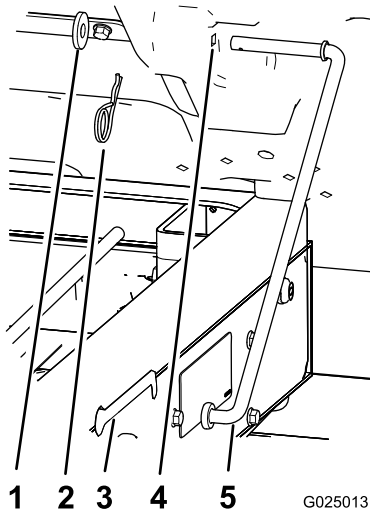

Figure 10
1. Remove the hairpin and washer that secure the prop rod to the bottom of the bed (Figure 10).
2. Slide the prop rod forward to remove it from the bracket on the frame (Figure 10).